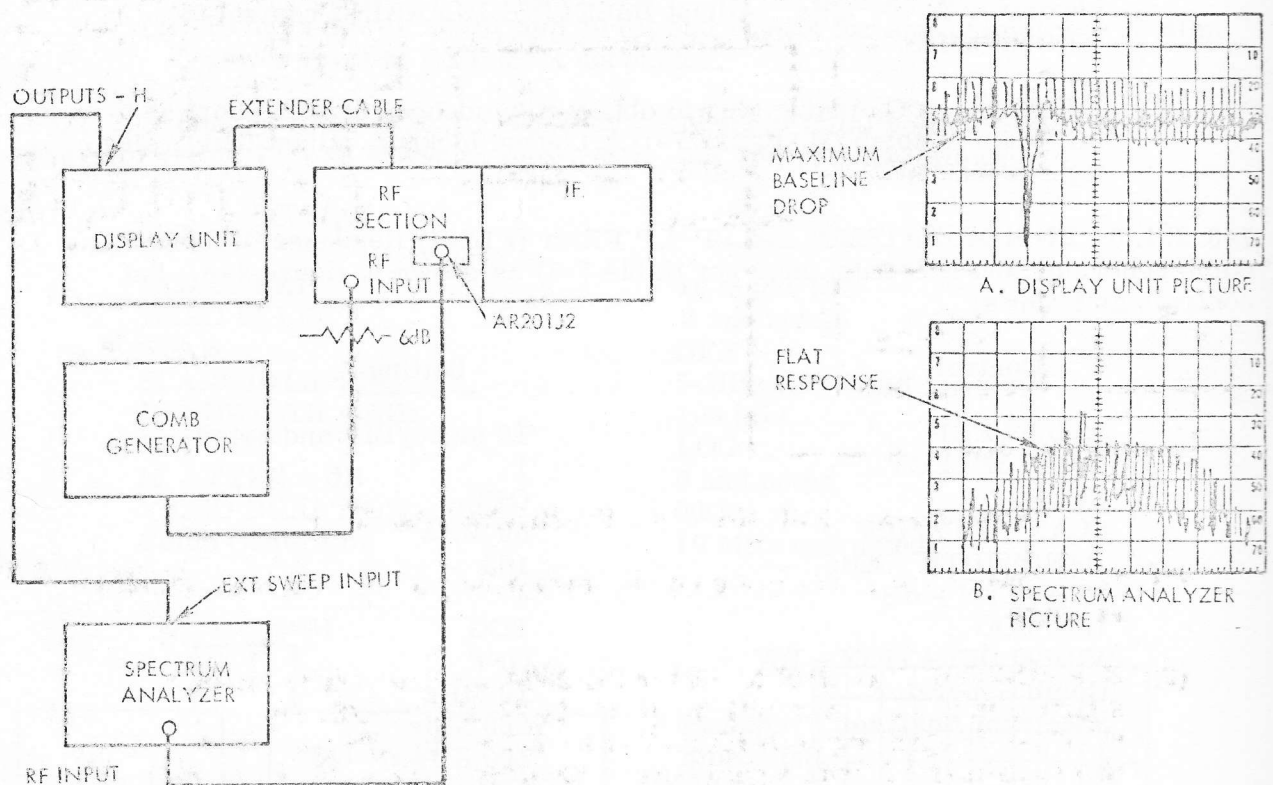

Figure 7-8. Z202 First Mixer and BP-LP Filter Test Setup
7-3.2.1.6 First Mixer (Z202) and BP-LP Filter (FL201) Response. Connect comb generator and spectrum analyzer (table 7-1) as shown in figure 7-8. Set controls as follows:
- (1) Place FINE TUNE control in center of its range, check the display on 712-2 display unit and adjust 1st mixer input cavity tuning slug for maximum baseline drop (A, figure 7-8).
- (2) Check the display on external spectrum analyzer, center the 260 MHz response, and adjust slugs A, B, C on FL201 to obtain flat response at least from 255 to 265 MHz (B, figure 7-8). Adjust 1st mixer output cavity tuning slug if necessary for flat response.